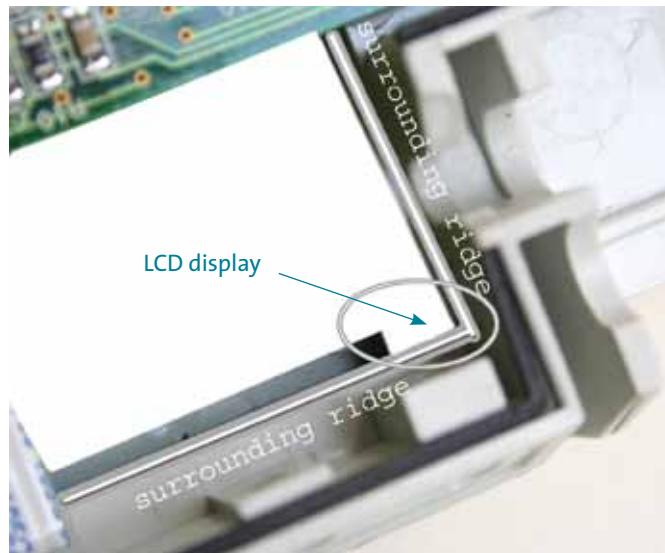

Figure 8. LCD level with surrounding ridge
- a Start by taking the front housing and checking that the LCD display is seated properly within the surrounding plastic confinement and not on top of it. Make sure that the plastic corner of the LCD is level with the surrounding ridge (Figure 8)
- 2 Check that the LCD is seated properly within the surrounding plastic confinement and is not on top of it. Make sure that the plastic corner of the LCD is level with the surrounding ridge (Figure 8).